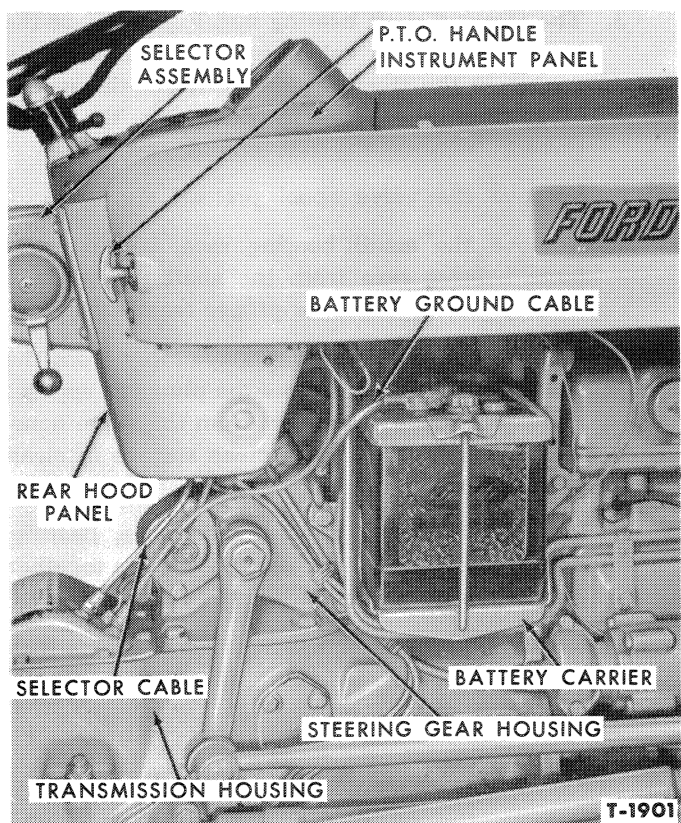

Figure 15—Installed View of Steering Gear Housing
1. Disconnect the battery ground cable from the battery, Figure 15.